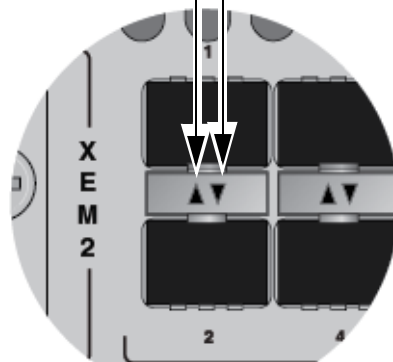

Figure 3. Link and Activity LEDs for 1/2.5/5/10Gbps SFP/SFP+ Transceivers
**LEDs** The LEDs are located between the ports. Each port has one LED. Refer to Figure 3.